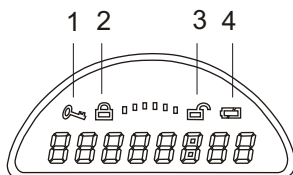
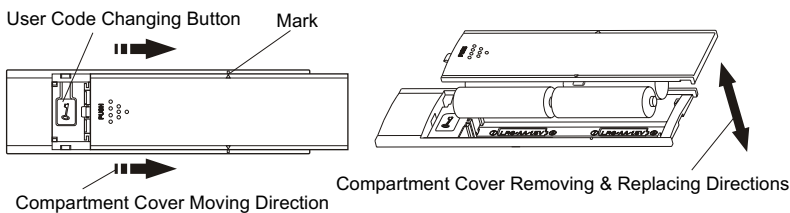

Figure 2
Figure 5 Removing the Compartment Cover
- ☐ Take out four AA batteries from inside the container. Locate the battery compartment in the back of the door and remove the compartment cover (Figure 5, P.5 in User's Manual). Install the batteries into the compartment as per polarity marks indicated inside the compartment and replace the cover.
2. Press the '#' button and the prompt '🔑' will be displayed on the LCD screen (See Figure 2).
4. Locate the battery compartment in the door back. Remove its cover according to Figure 5. Press the user code changing button. The prompt '🔑' (See Figure 2) will be displayed on the LCD screen with two beeps to indicate that it's in process of changing the user code. (***Please replace the battery compartment cover after completion of changing the user code.***)
Enter your user code and the number you entered will be displayed on the LCD screen (See Figure 2).
Press the 'Ⓢ' button and the prompt '🔑' will be displayed on the LCD screen (See Figure 2).
Push and remove the battery compartment cover according to Figure 5. Take out the old batteries and install the new ones properly into the compartment as the polarity marks show. Put and push the compartment cover into place.